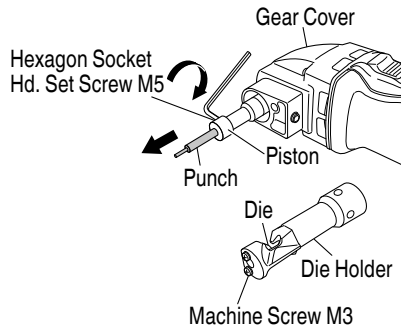

Fig. 11
- Loosen the M5 hexagon socket set screw fastening the punch to the piston and pull out the punch. (see Fig. 11)
Loosen the 2 machine screws and replace the die. (see Fig. 11)